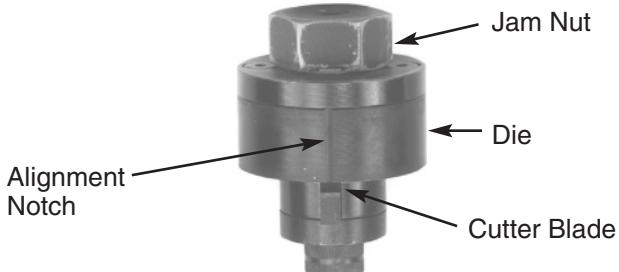

Figure 2
1. Loosen the cutter jam nut, 2 or 3 turns. Insert the cutting tool into the $1\frac{1}{32}$ " panel opening until the pilot shoulder extends into the hole and the die rests against the panel. (Figure 2)